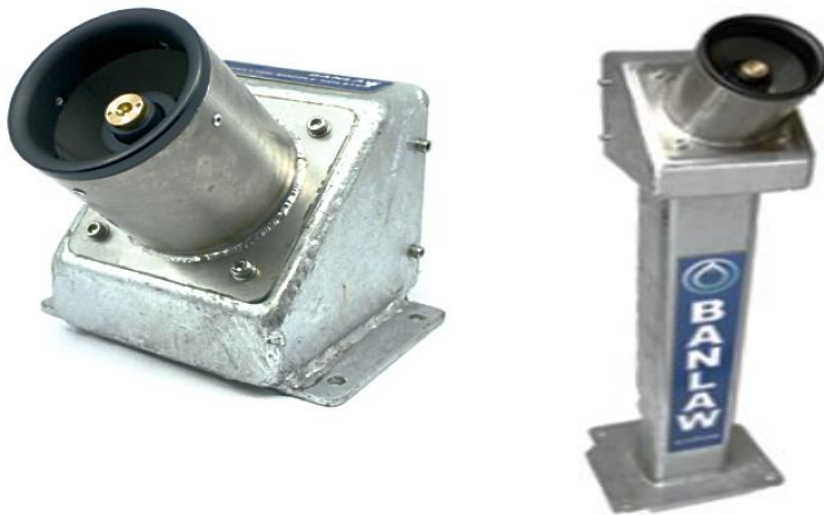

Figure 1 - Nozzle Holsters - "Short" Holster (left) and "Tall" Holster (right)
- Available in “short” or “long” styles to suit a variety of applications – refer Figure 1. Can be installed at fixed refuelling points or onboard mobile service vehicles;